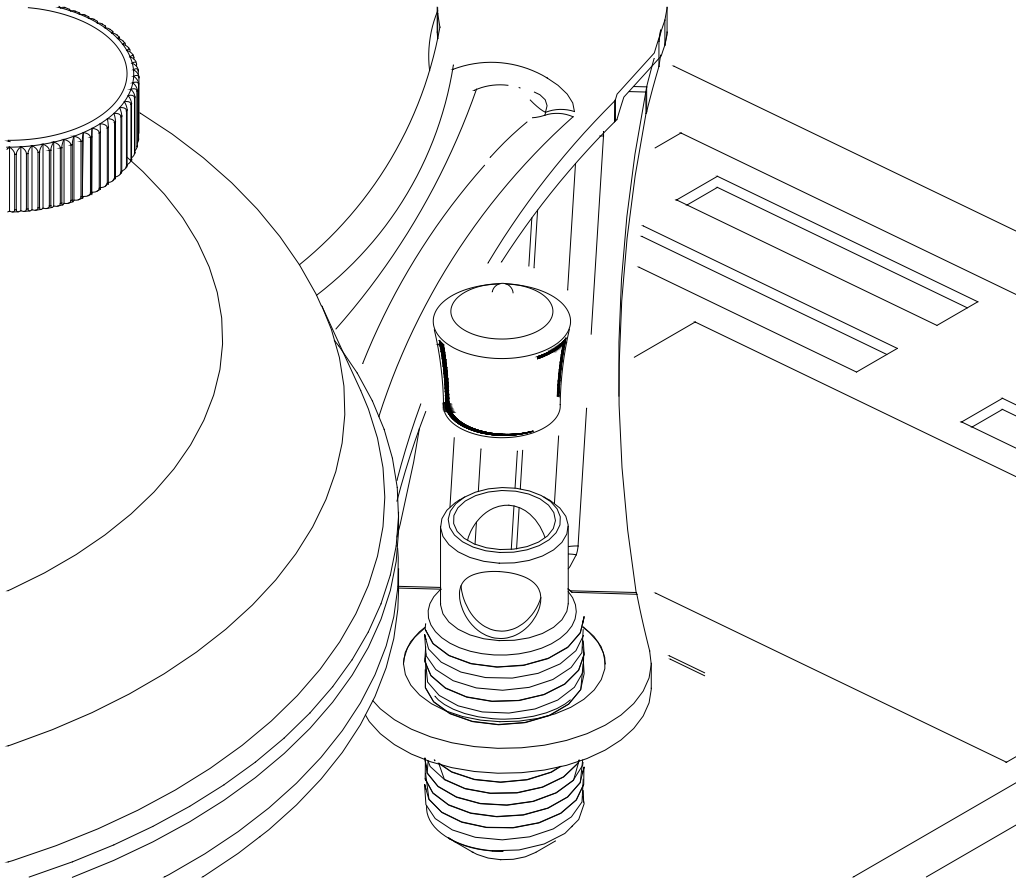

Figure 8. Plastic Cap Installation
Step 1. Once all the final adjustments have been finished, install the plastic caps on the leveling barrels (Figure 8).